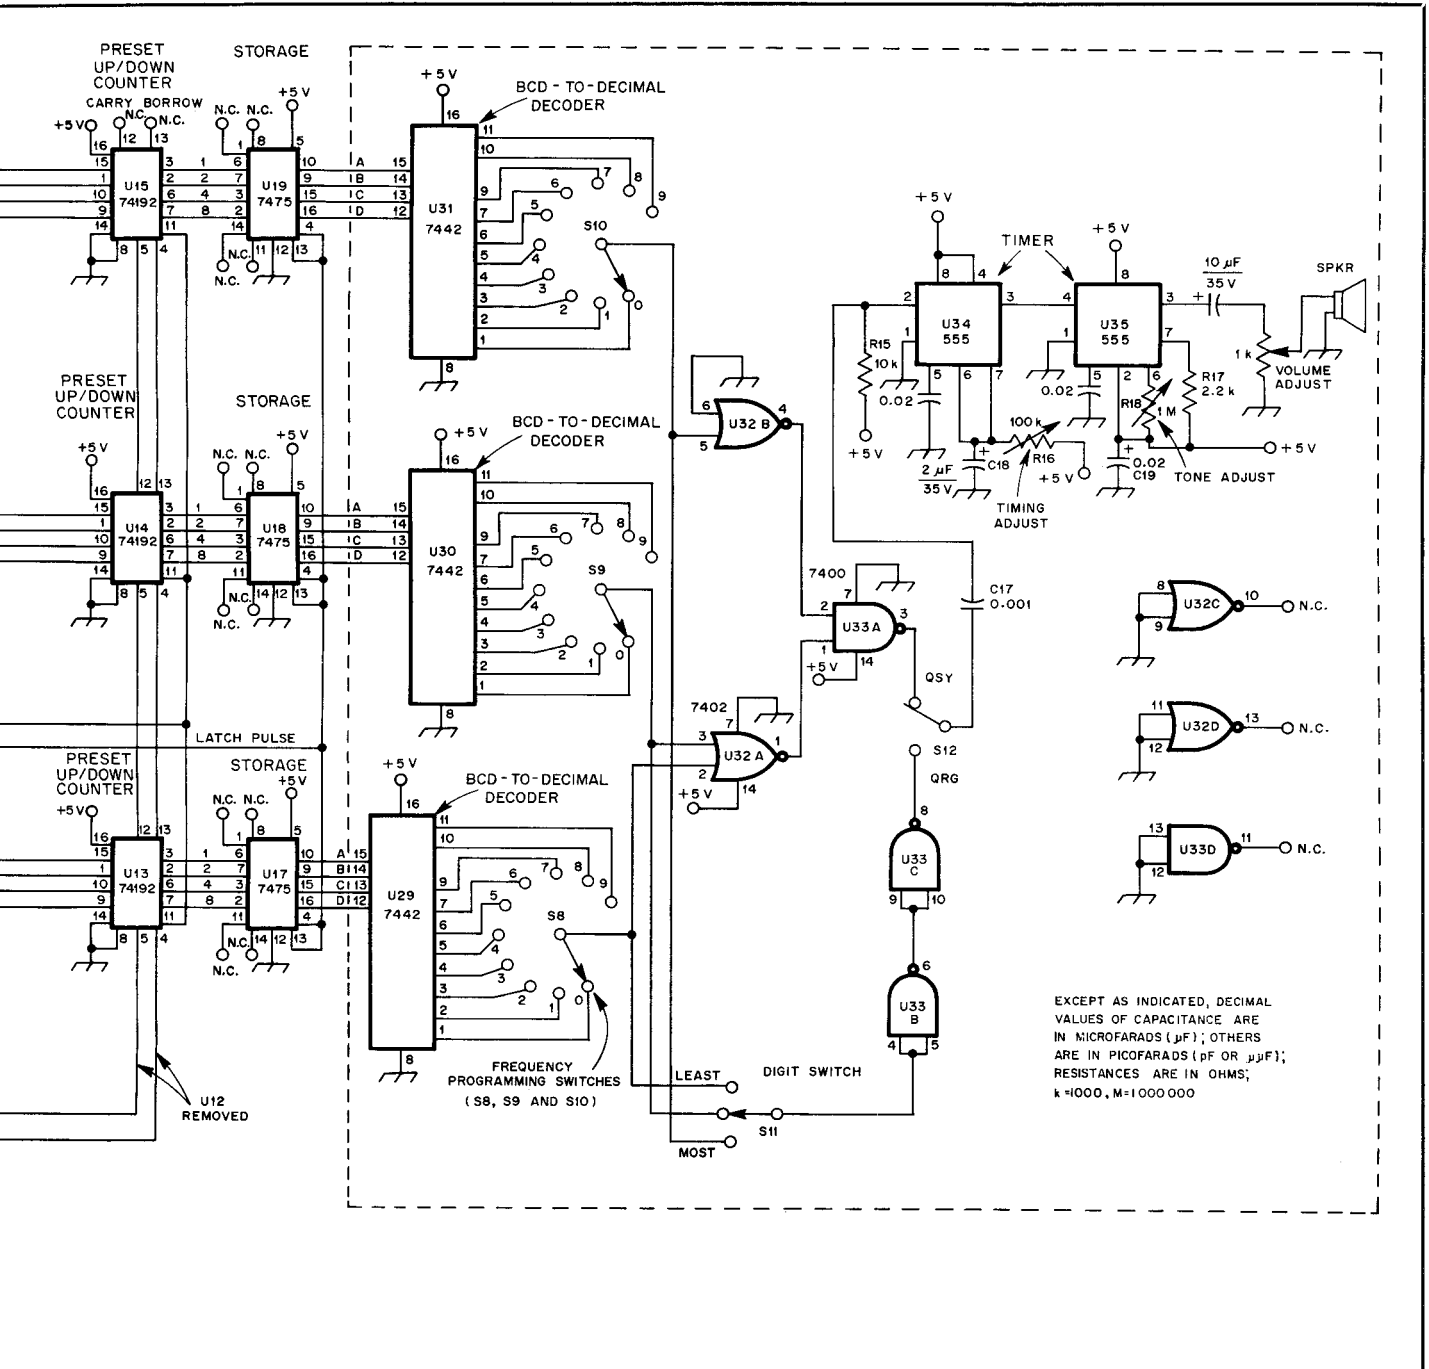

Fig. 2 — Complete schematic diagram of the frequency counter and audible frequency readout.
of miniature coaxial cable to the VFO. A complete schematic diagram of the counter and readout is given in Fig. 2.
We need a low output from the NAND gate to trigger the 555 one-shot multivibrator shown in Fig. 2. Since the output from the NAND gate is high up to the moment that you tune to the exact programmed frequency, and then falls to 0, C17 and R15 are used to differentiate this wave form to produce the necessary pulse for the one-shot. The output of the one-shot is timed by R16 and C18 for about 1/10 of a second and is fed to the control pin of the second 555, an audio-frequency oscillator that generates a tone in a miniature loud speaker. The tone of the beep is controlled by the values of R17, R18 and C19. R15 ensures that the voltage on pin 2 of the one-shot is always high except during the short interval of the trigger pulse. The trigger pulse always must be shorter than the one-shot output pulse.
□ Bob Shriner, WA0UZO, points out an error in Fig. 2 of Rand's article, "The 'Beeper': An Audible Frequency Readout for the Blind Amateur," on p. 21 of Sept. 1983 *QST*. Timer U35 will not work as shown. Pin 2 should be connected to pin 6, not to +5 V as shown. Make the connection to the top of the 1-M Ω tone-adjust control, instead of the bottom.